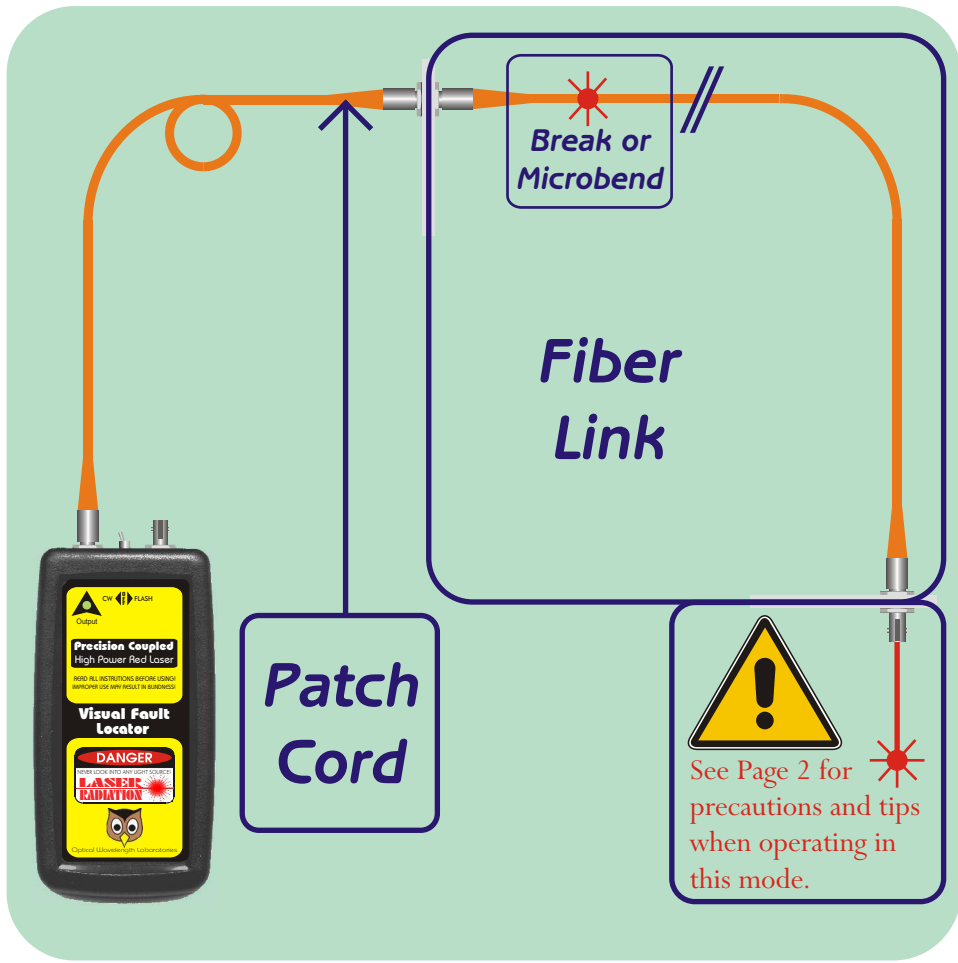

Figure 2 - Visual Fiber Identification Configuration
### Visual Fault Location (Figure 2 - Visual Fault Location Configuration - Page 5)
- (1) Connect the PCVFL to the fiber you are testing via a patch cord as shown in Figure 2.
- (2) Power ON the PCVFL to visual fault location mode by flipping the switch to the left. If there is a fault in the fiber, red light will appear as a red glow through the fiber jacket at the point of the fault.